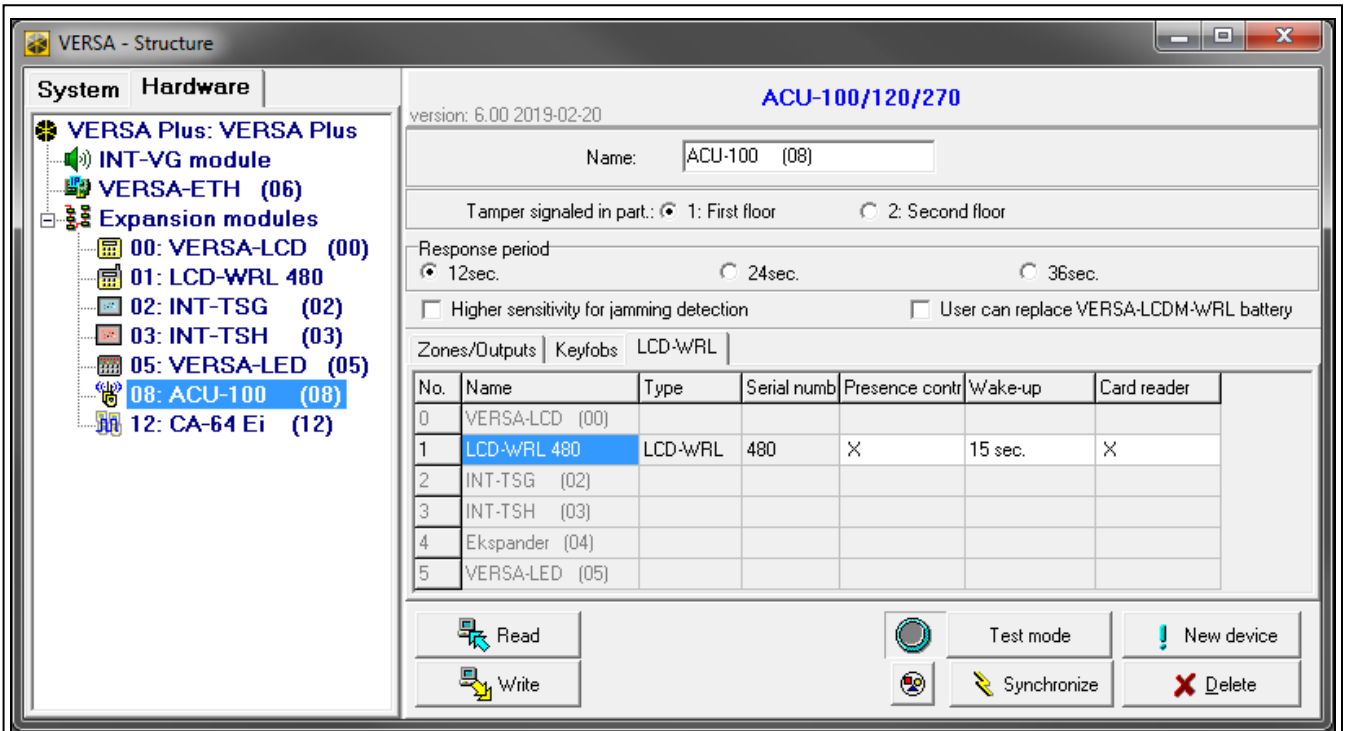

Fig. 3. DLOADX program: keypad settings stored in the ABAX 2 / ABAX controller.
You can add wireless keypads in the “VERSA – Structure” window, “Hardware” tab, after clicking on the name of ABAX 2 / ABAX controller on the list of devices, and then on the “LCD-WRL” tab (see: Fig. 3 p. 7).
You can remove the wireless keypads in the “VERSA – Structure” window, “Hardware” tab, after clicking on the name of ABAX 2 / ABAX controller on the list of devices, and then on the “LCD-WRL” tab (see: Fig. 3 p. 7).
- DLOADX program: →“VERSA – Structure” window →“Hardware” tab →“Expansion modules” branch →[*controller name*] →“LCD-WRL” tab (see: Fig. 3),